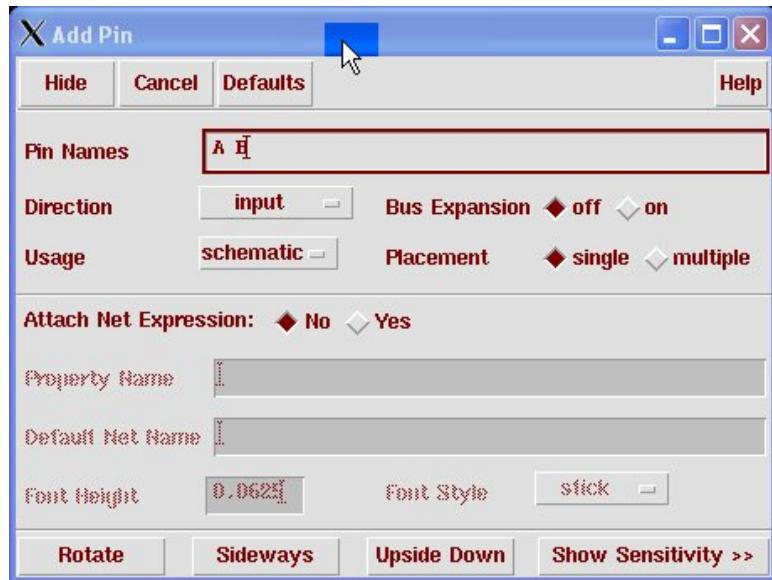

Figure 3.6: Add Pin dialog box
6. Adding Pins: Pins are connections that enter or leave this schematic sheet. They are called pins because they will correspond to pins on the symbol view of this schematic. Pins can be added by going to **Add → Pin** from the menu, or pressing **p**, or selecting the “Add Pin” widget from the left side of the Composer window to get the **Add Pin** dialog box (Figure 3.6). . For example, to put two input pins A and B, we can fill in the Pin Names field as A B (with a space) and the Direction list as input.